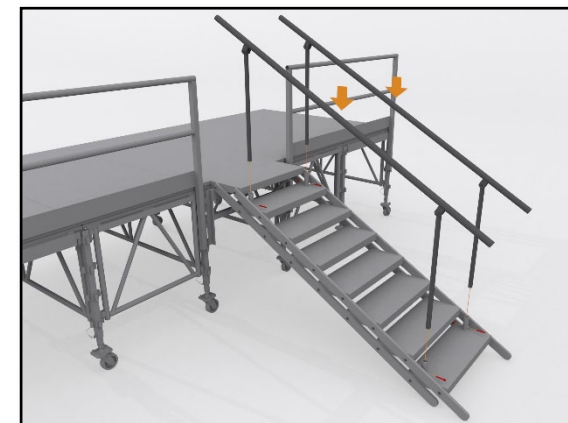

Fig. 39 – Step Handrail Installation
- 9.4.12 Align the handrail vertical posts to the sockets on the treads and fully insert. *Fig. 39 – Step Handrail Installation*